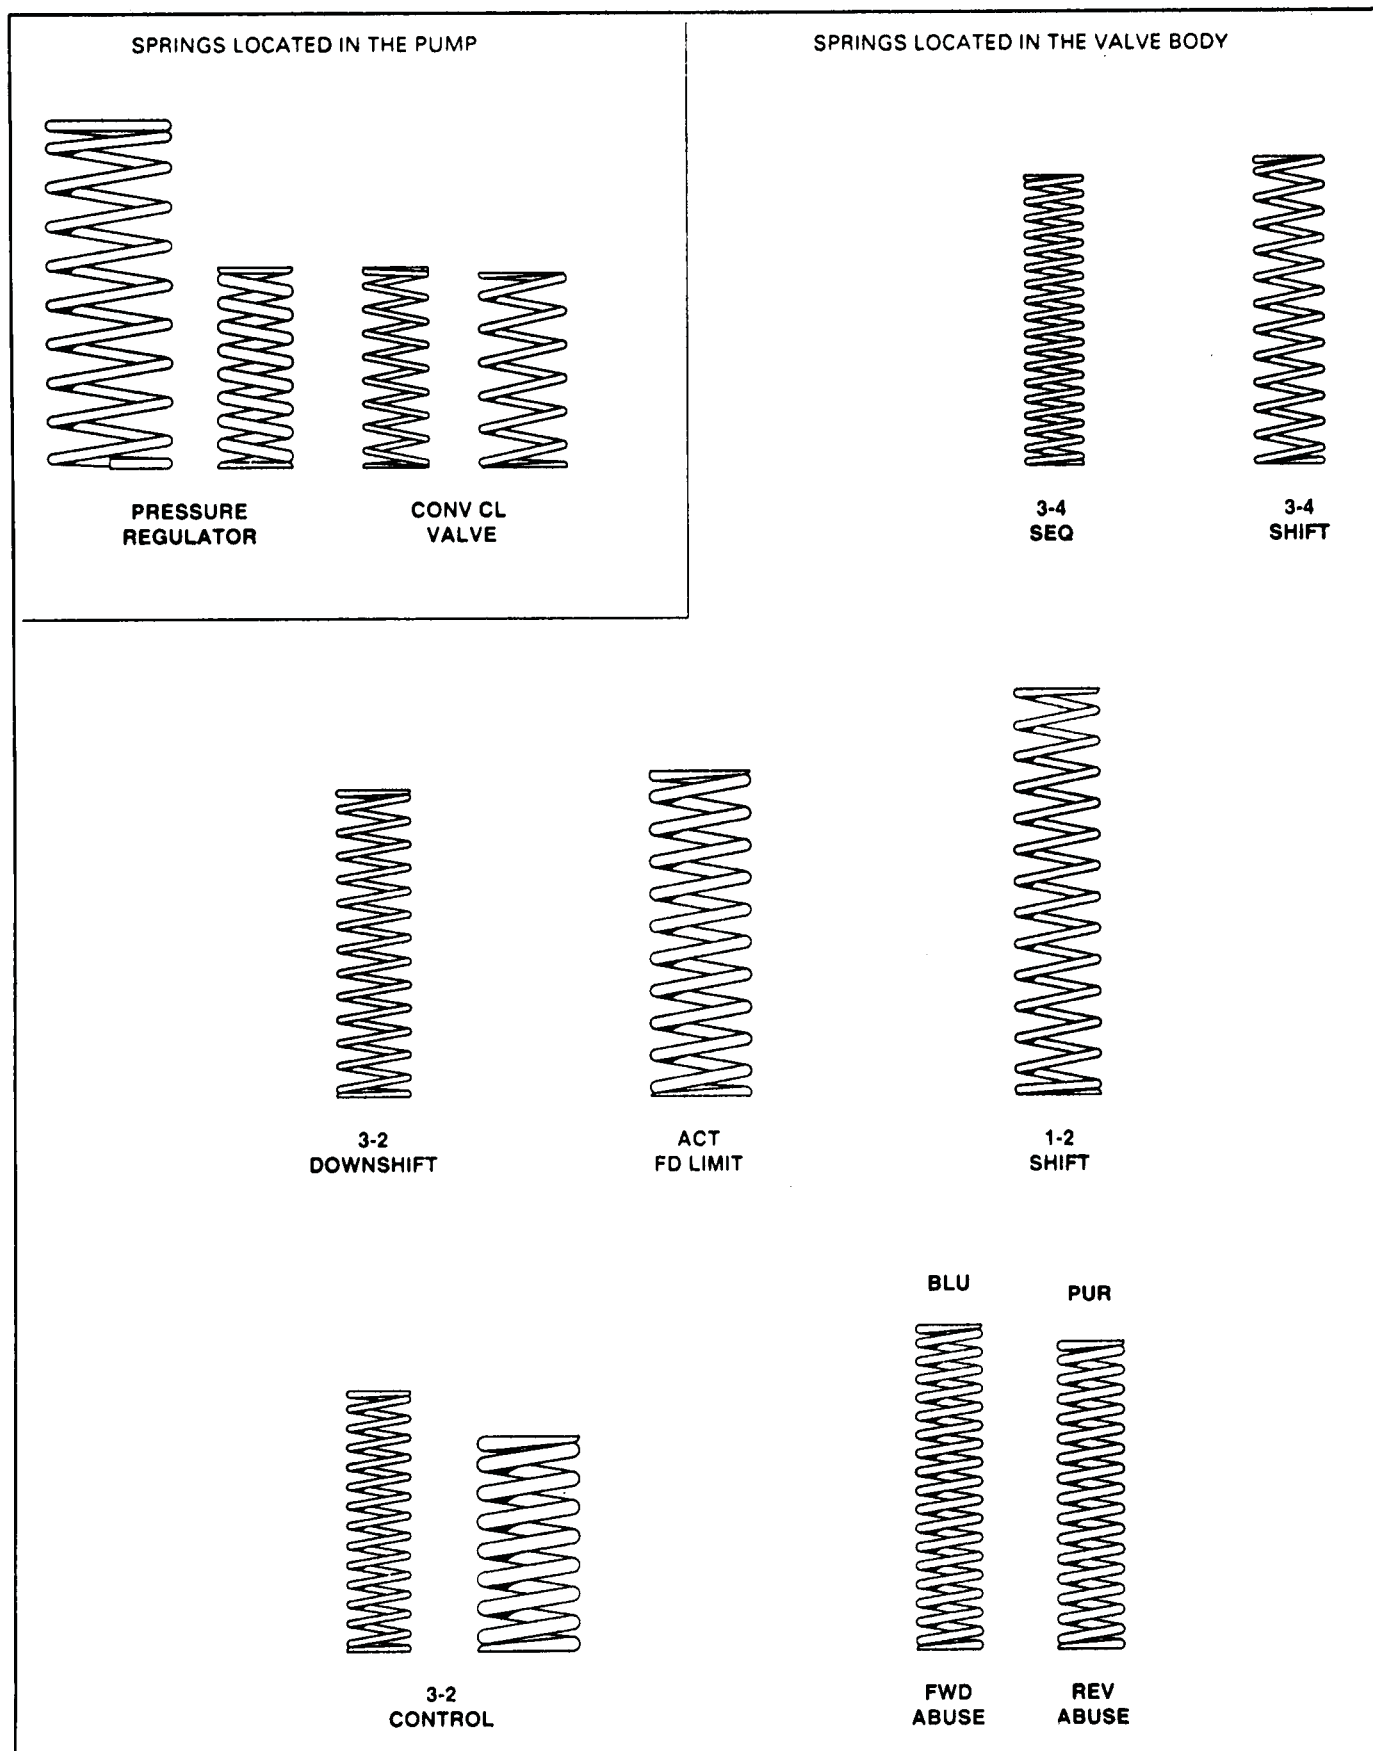

Figure 159
12. Use Figure 159 to identify any of the springs in valve body and pump.